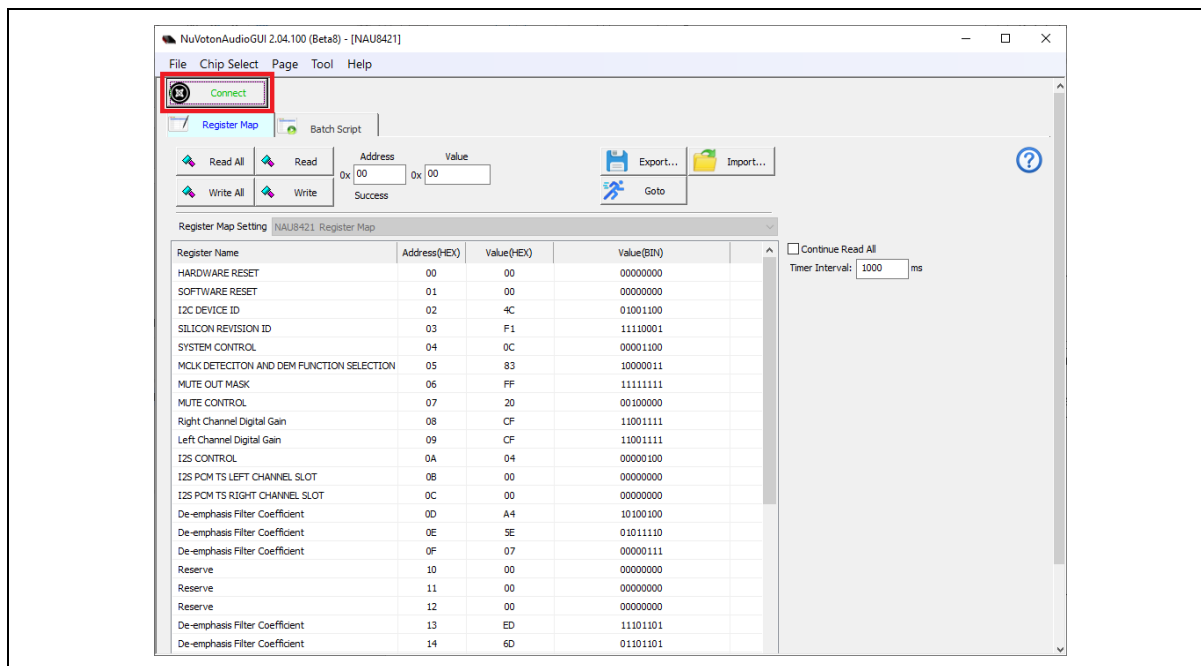

Figure 3-6 NuvotonAudioGUI Operating Step (3)
3. NuvotonAudioGUI will automatically read connection status. If the hardware and software are properly configured, a green [Connect] will appear on the upper left corner of the NuvotonAudioGUI window, as shown in Figure 3-6. Then users can issue I²C commands through NuvotonAudioGUI to control NL-NAU8421.